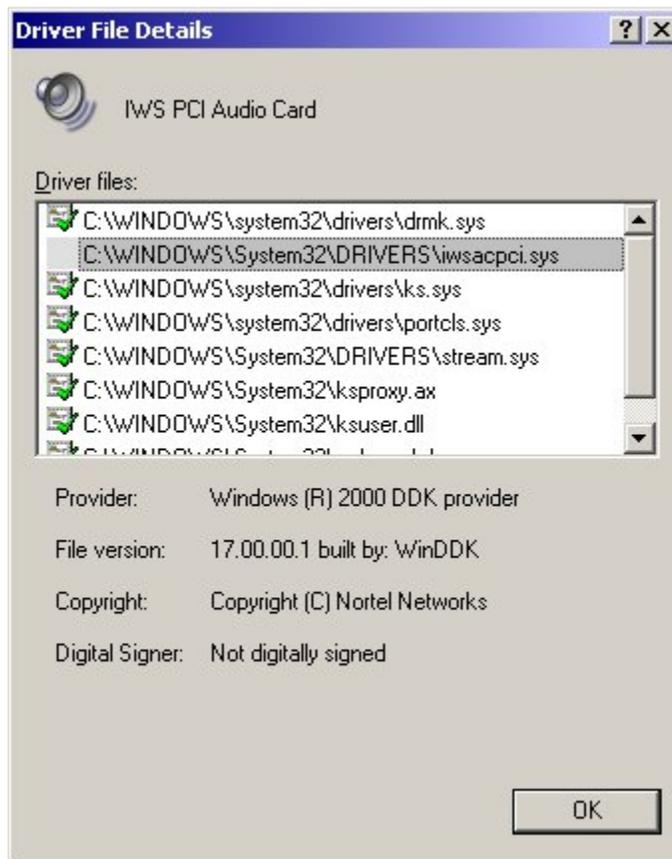

FIGURE 229. Driver File Details
12. The window as in Figure 229 should appear.